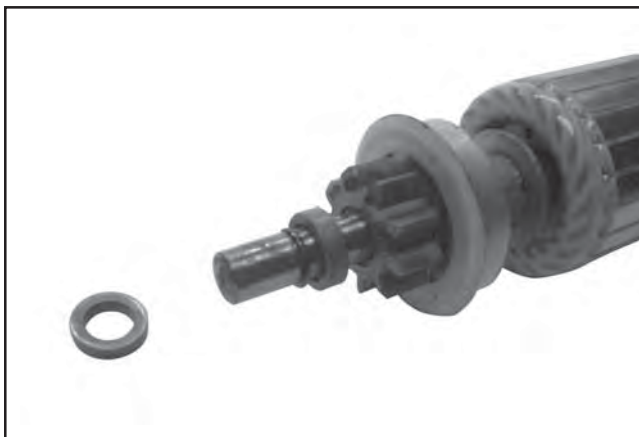

Figure 8-61. Starter Drive and Stop Components.
9. The stop collar is held in place by being snapped over the retainer from the bottom-up. The retainer is positioned in a groove in the armature shaft. To access the retainer, the stop collar must be pushed **back** or **down** towards the drive pinion. See Figure 8-61.